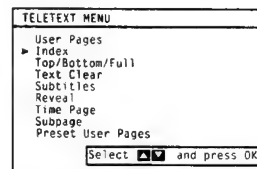

Fig. 36.
- 2 Using Δ + or ∇ -, select the teletext function you want and press OK. (See Fig. 36)